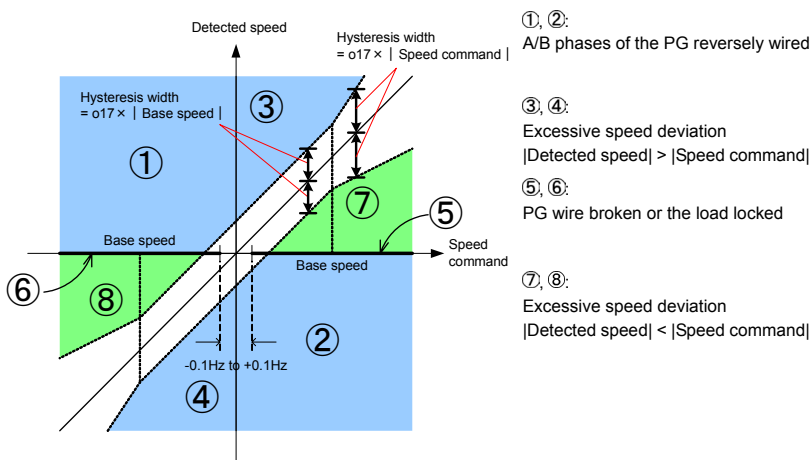

Figure 6.1 Excessive Speed Deviation Detection and Speed Command
Table 6.5 and Figure 6.1 show the relationship between PG error detection conditions and error processing (o19.)
| 0: Continue to run | Any status of ① to ⑥ in Figure 6.1 is kept exceeding the timer setting specified by o18. | None | Active |
| 2: Stop running (Alarm mode 2) | Any status of ① to ⑧ in Figure 6.1 is kept exceeding the timer setting specified by o18. | | |
When an **Ero** alarm occurs, the current error factor (any of ① to ⑧) can be displayed on the keypad by using Menu #6 "Alarm Information, Item 6_21 Error sub code." The relationship between the error code and error factors in Figure 6.1 are: 1 for ① or ②, 3 for ③ or ④, 5 for ⑤ or ⑥, and 7 for ⑦ or ⑧. For details, refer to the inverter's instruction manual. (Refer to the description of function code E52.)